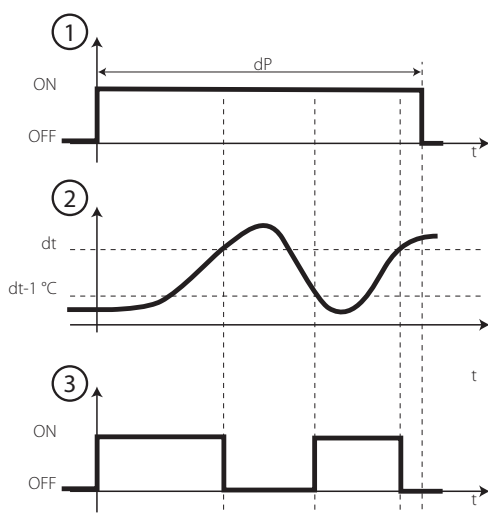

Fig. 4.g
- by time with temperature control (heater only); for a programmable time: the defrost output is only activated when the temperature is below the end defrost threshold, guaranteeing energy saving and defrosting of the evaporator even in more extreme situations (see Fig. 4.g).